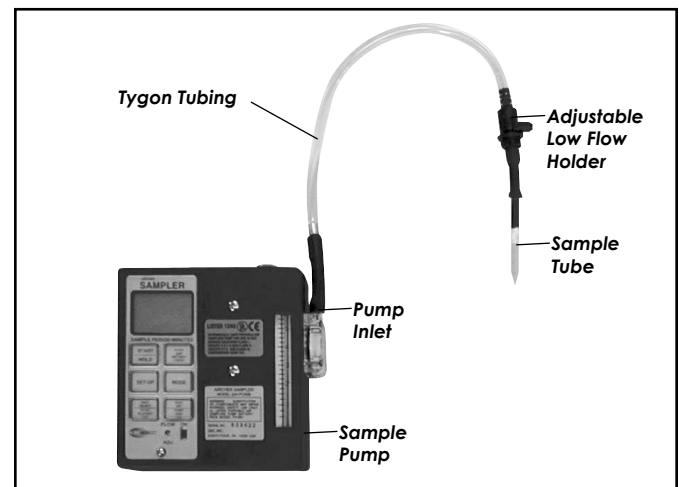

Figure 1. Sampling train using an adjustable low flow holder and Universal Series Sampler
2. Setting up the Calibration Train with Adjustable Low Flow Holder — See Figure 1